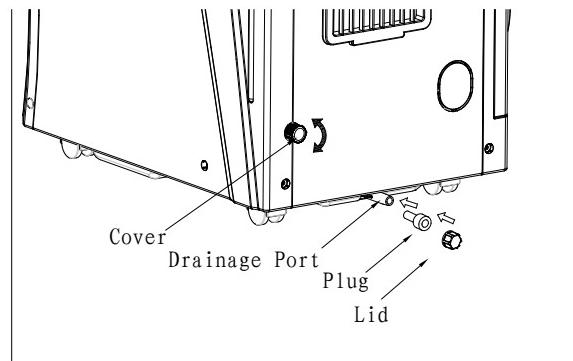

Fig. 14
- \* Before you drain the water you need to turn the unit off and pull the plug out of the power supply. Upcap the lid, remove the rubber plug on the drainage port, then let the water flow out. Once drained, put the rubber plug back and screw the lid up an switch it on. (Fig.14). If the provided pipe is not long enough, you may buy a longer one (inner diameters 9mn).